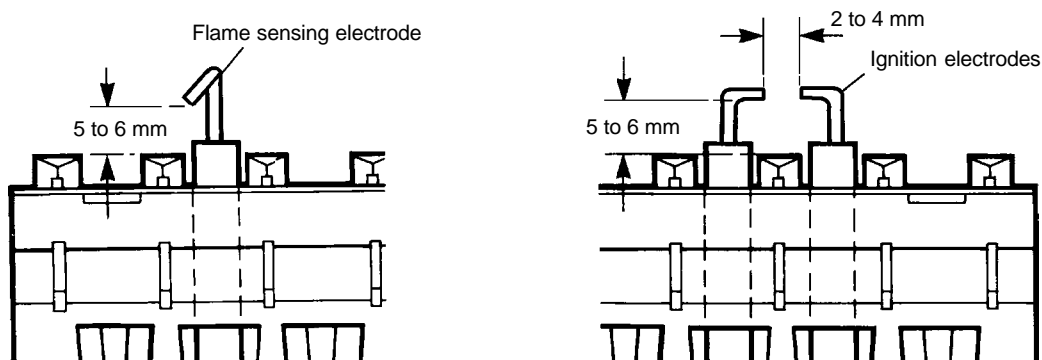

Fig. 18
9. Check the spark gap, positioning and height of the electrodes (see Fig. 18).
2. **To gain access behind the casing** - Lift the case front panel upwards slightly and pull it forwards to remove it from the boiler (see Fig. 18). If required, remove the side panels by removing the bottom fixing screw and lifting forwards and upward.
8.4 ELECTRODES - Fig. 18
Fit the new electrode, ensuring it is positioned correctly (see Fig. 18).
Fit the new electrode, ensuring both are positioned correctly and the spark gap is correct (see Fig. 18).